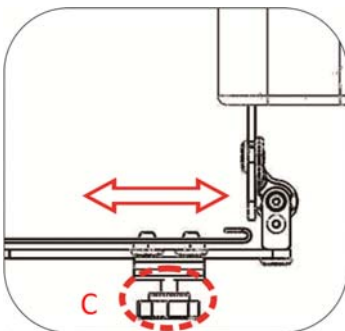

Figure 5-140
5.3.12.4 Loosen the knob C. The pommel can be moved forwards or backwards. Re-tighten all screws. (Figure 5-140)